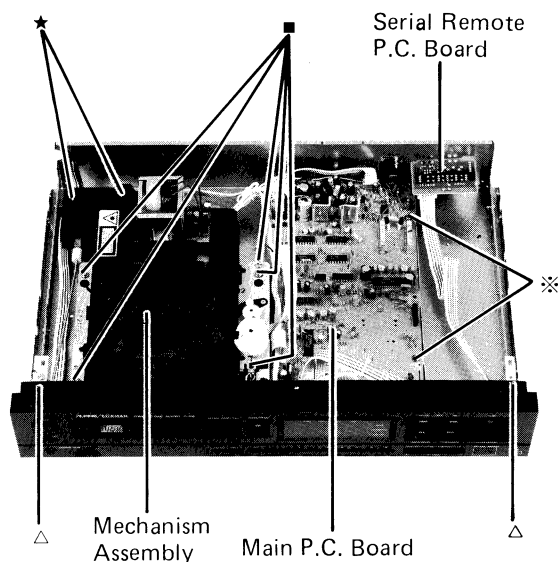

Figure 7
- (1) After removal of the front panel, remove five screws marked "■" as shown in Figure 7.
- (1) After removal of mechanism assembly, remove three rivets marked "★" as shown in Figure 7.